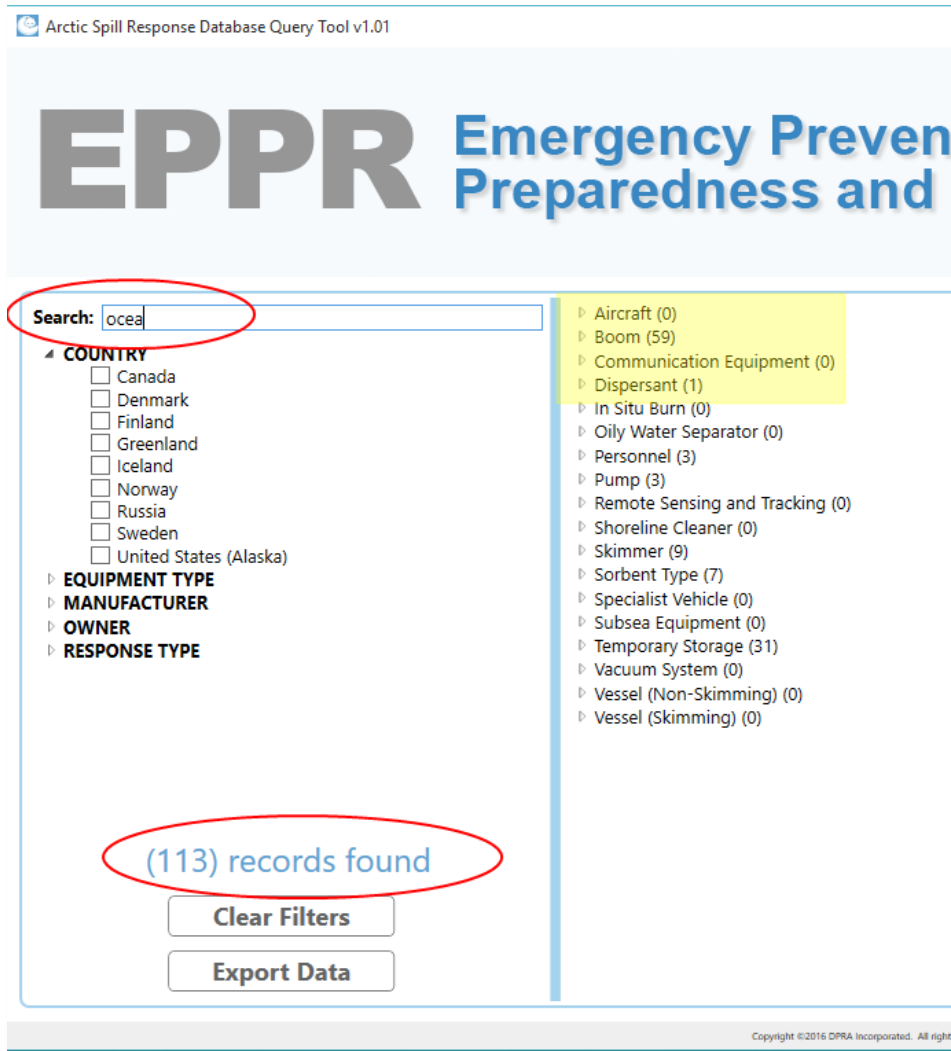

Figure 6- Using the Keyword Search
3. The records displayed in the Equipment Categories on the right immediately begin to auto filter as you type. The number of records in each Equipment Category diminishes as the filter is applied and record count in the parenthesis updates. The (Total) Records Found updates to represent the correct count for the filtered data (Figure 6).